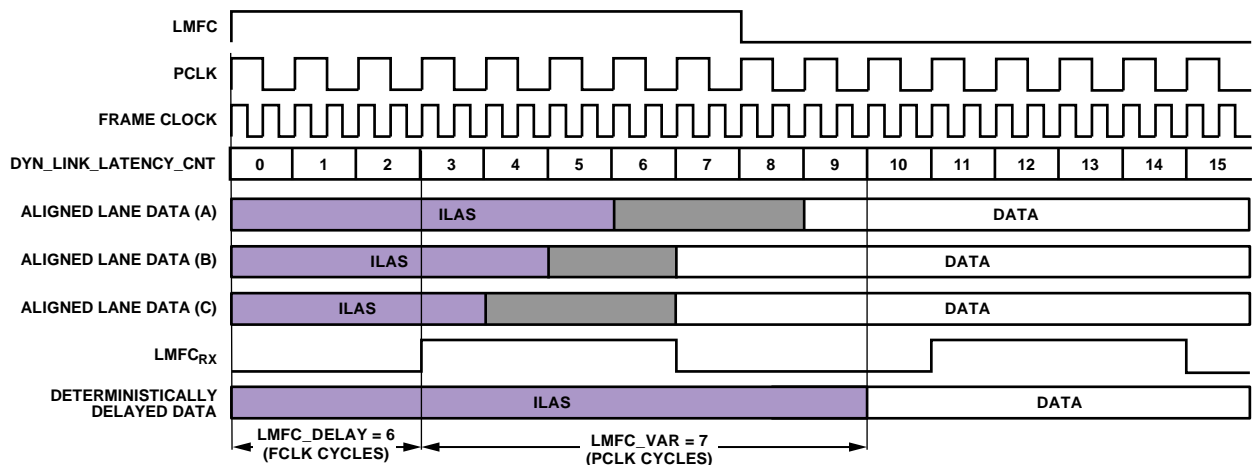

Figure 59. Multilink Synchronization Settings, Derived Method Example
Figure 59 shows how DYN\_LINK\_LATENCY\_x (Register 0x302 and Register 0x303) provides a readback showing the delay (in PClock cycles) between LMFCRX and the transition from ILAS to the first data sample. By repeatedly power cycling and taking this measurement, the minimum and maximum delays across power cycles can be determined and used to calculate LMFCVar and LMFCDel.
The example shown in Figure 59 is demonstrated in the following steps according to the procedure outlined in the Without Known Delays section. Note that this example is in Subclass 1 to achieve deterministic latency, which has a PClockFactor (frame clock rate/PClockRate) of 2 and uses K = 16; therefore, PClocksPerMF = 8.
1. In Figure 59, for Link A, Link B, and Link C, the system containing the AD9135/AD9136 (including the transmitter) is power cycled and configured 20 times. The AD9135/AD9136 are configured as described in the Device Setup Guide. Because the point of this exercise is to determine LMFCDel and LMFCVar, the LMFCDel is programmed to 0 and DYN\_LINK\_LATENCY\_x is read from Register 0x302 and Register 0x303 for Link 0 and
Link 1, respectively. The variation in the link latency over the 20 runs is shown in Figure 59 in gray. Link A gives readbacks of 6, 7, 0, and 1. Note that the set of recorded delay values rolls over the edge of a multiframe at the boundary K/PClockFactor = 8. Add PClocksPerMF = 8 to low set. Delay values range from 6 to 9. Link B gives Delay values from 5 to 7. Link C gives Delay values from 4 to 7.